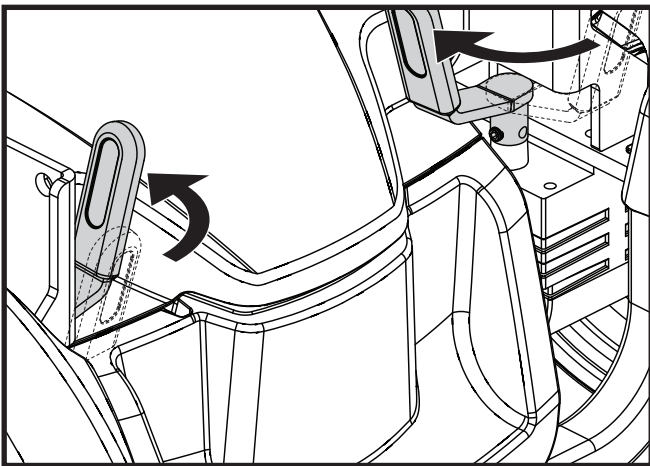

Figure 4. Drive Mode (Drive Engaged)
2. Rotate both levers inward toward the seat to engage the drive motors (drive mode). **See figure 4.**